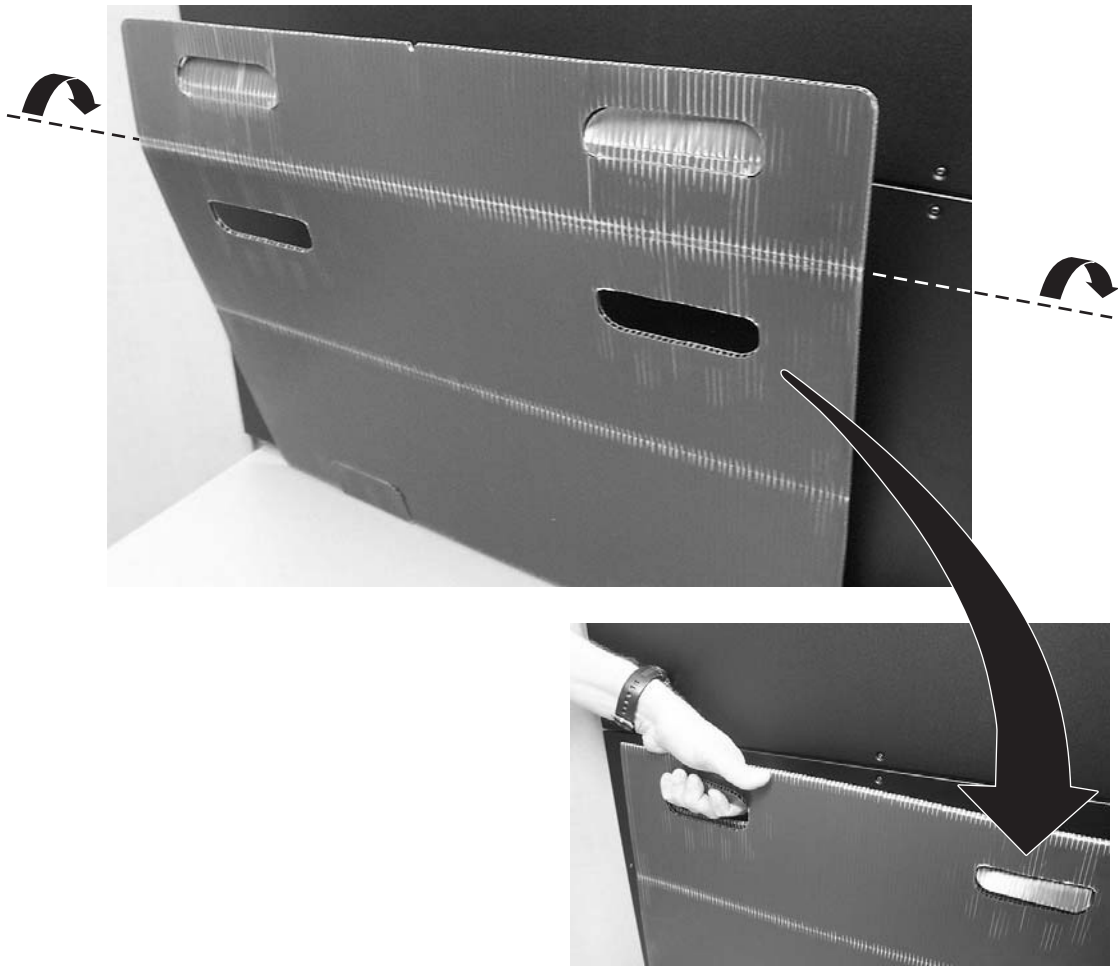

Figure 3-24. Sling
4. With a person on each side of the module, lift the module with the sling provided (see Figure 3-24 on page 3-26 to see how the sling handles should be folded).